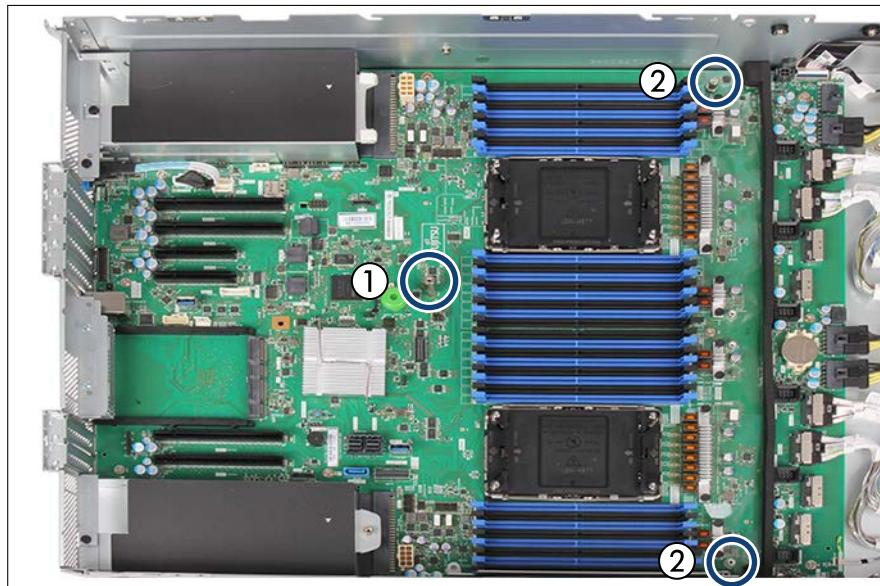

Figure 353: Position of the hexagon standoff and the specifical screws
- ▶ Fasten the system board with the hexagon standoff, see Figure 353.